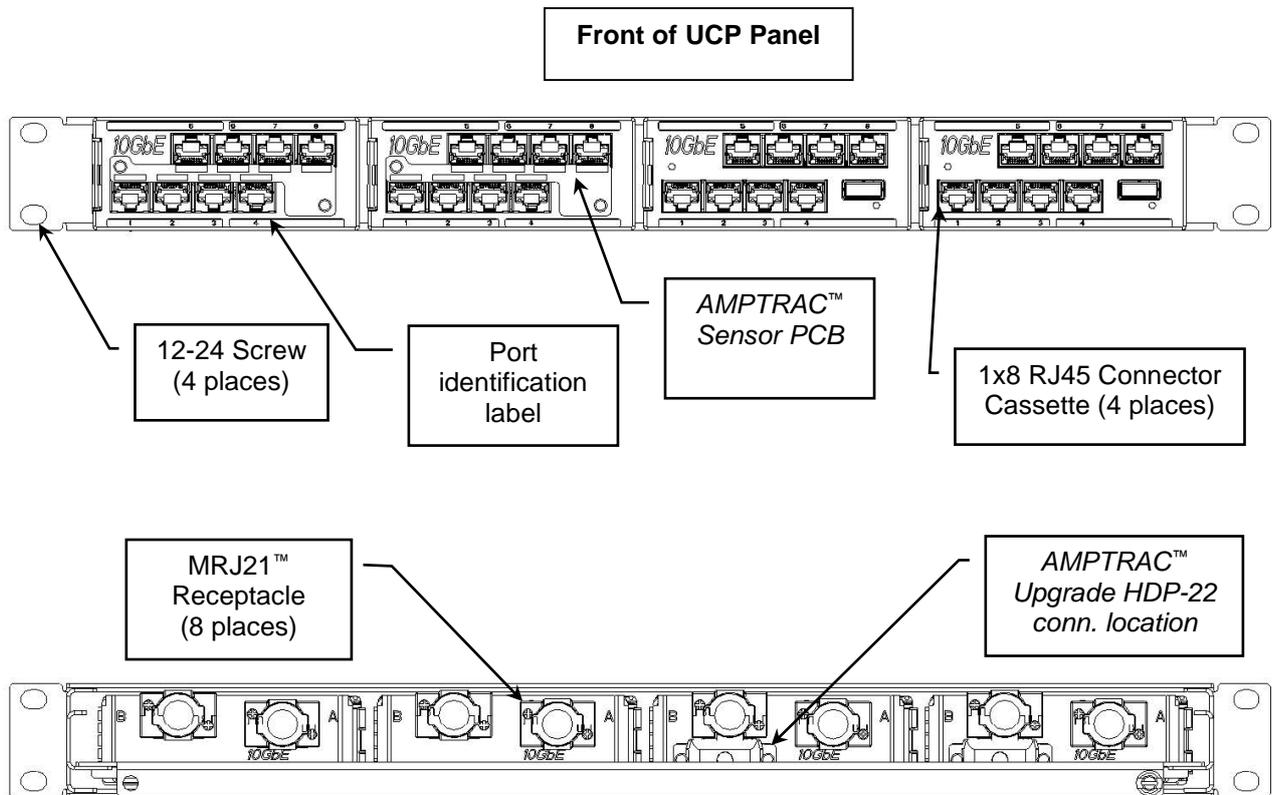

Figure 1 (1-1671594-1 panel with AMPTRAC Cassette 2153091-1 and Standard Cassette 2153115-1 as shown. Use appropriate customer drawing for other panel views)
MRJ21 10GbE Quick Fit Cassette 8 Ports are designed to be mounted onto UCP Patch Panels (angled or flushmount) as shown in Figure 1 and the AMPTRAC version is designed to be used with AMPTRAC system.
- 3.1. Using the screws, mount the UCP Patch Panel onto the rack, refer to Figure 1.